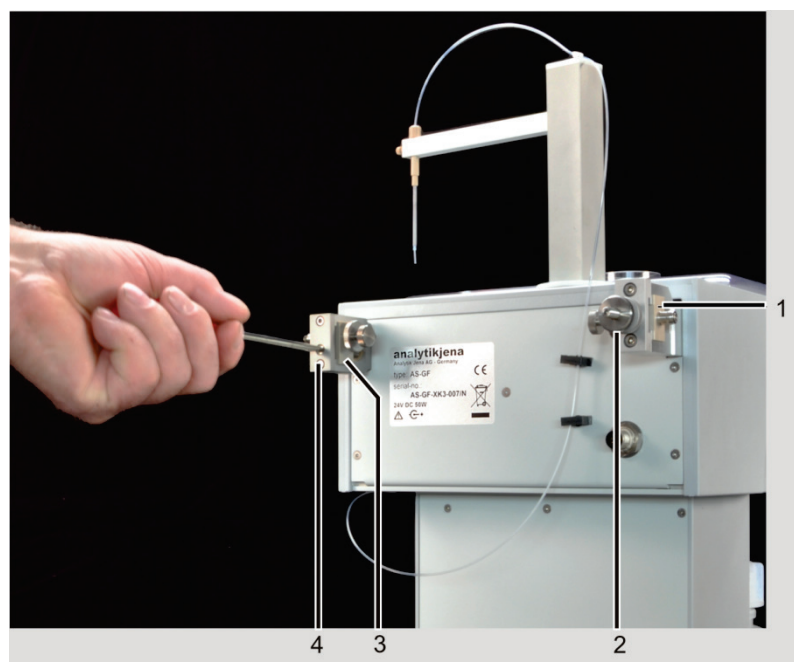

Fig. 37 Aligning the AS-GF with the furnace
5. If necessary, align the AS-GF with the furnace (coarse adjustment): manually rotate the autosampler arm over the dosing opening in the graphite tube. If the dosing tube does not align with the opening, the suspension of the autosampler must be moved forward or back. To this end unhook the autosampler from the sample chamber. Move the left and right suspension mounts with the aid of adjusting screw 1 and the set screw (2 and 4 in Fig. 37). Hook the autosampler back in.